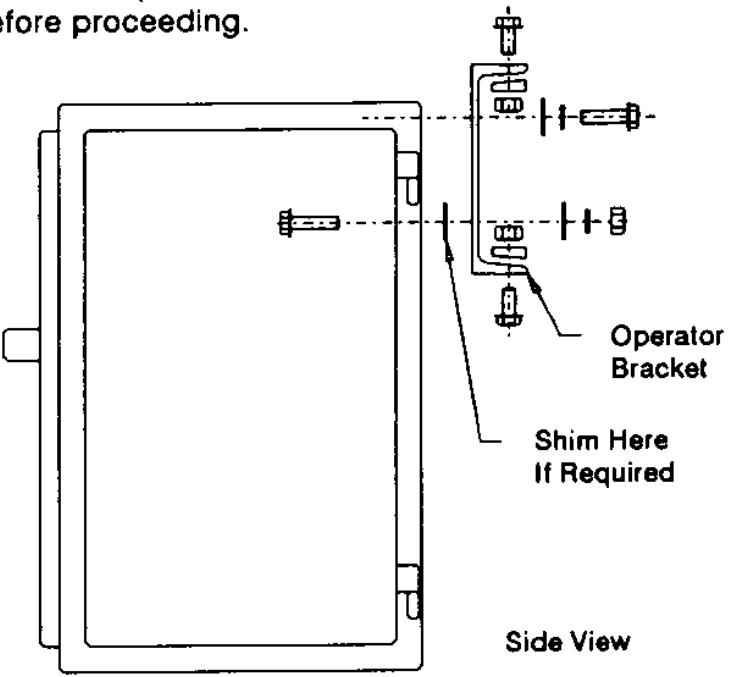

Figure 31 -- Motor Operator Mounting
5. The motor operator is bolted to the column leg as shown in Figure 31 by using kit #4. Proper lifting method is shown in the Handling section. Further details of the motor operator are covered in the Operation Section of this manual. If unfamiliar with the motor operator, this section should be reviewed before proceeding.